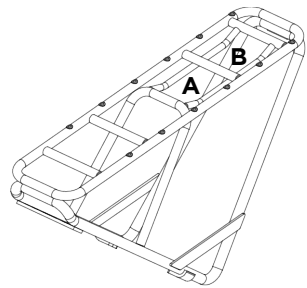

Figure 6
The LODEN Rear Rack is compatible with the Yepp Maxi Child Seat. A single child seat can be mounted in one of two locations: the second window from the back of the rack (A) or the window at the very back of the rack (B; see Figure 6). Mounting the seat in spot A is preferred for weight balance. Total weight of the child seat plus the child cannot exceed 55 lbs / 25 kg. Make sure to follow all instructions provided by the child seat manufacturer and see the "Special Note for Parents" on page 5.